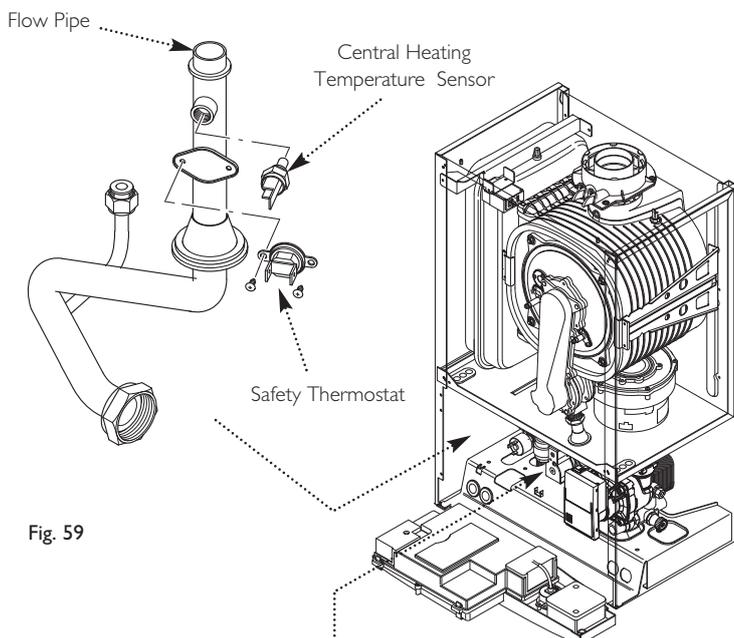

Fig. 59
13.10 Central Heating Temperature Sensor (NTC) (Fig. 59)
13.11 Safety Thermostat (Fig. 59)